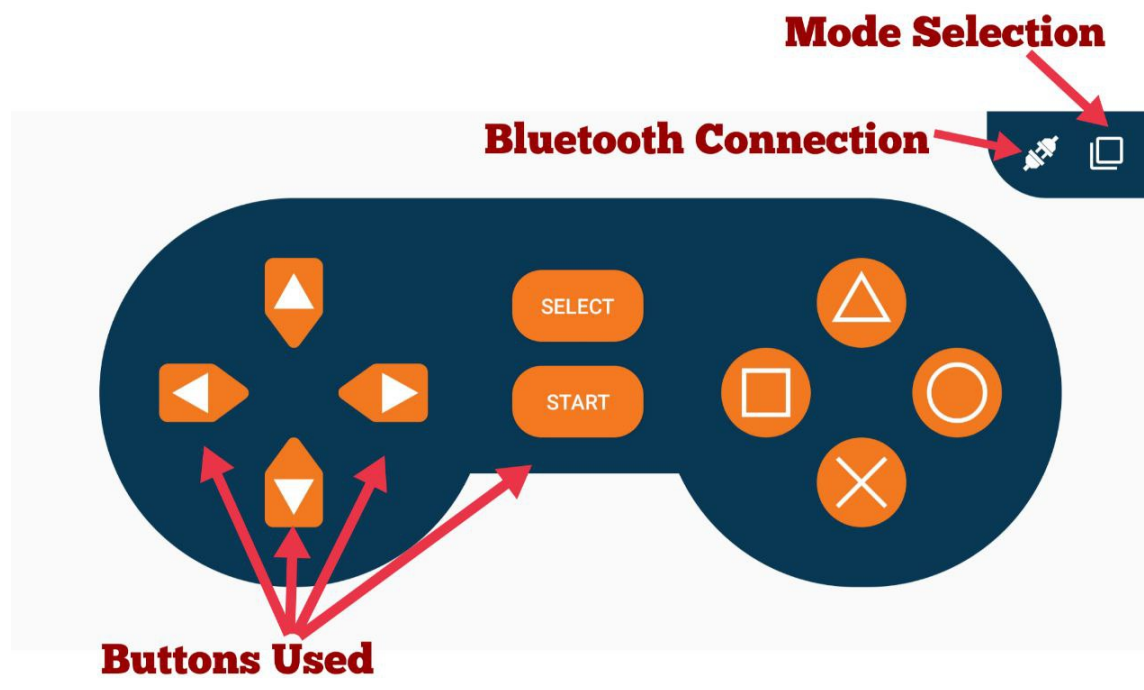

Figure 1.5.6.1: Dabble app Interface
- 1.5.6. Open the Dabble application. Select gamepad option in the app and then select Digital Mode and connect it app to ESP-32 by connecting it ESP-32 bluetooth as shown in Figure 1.5.6.1.